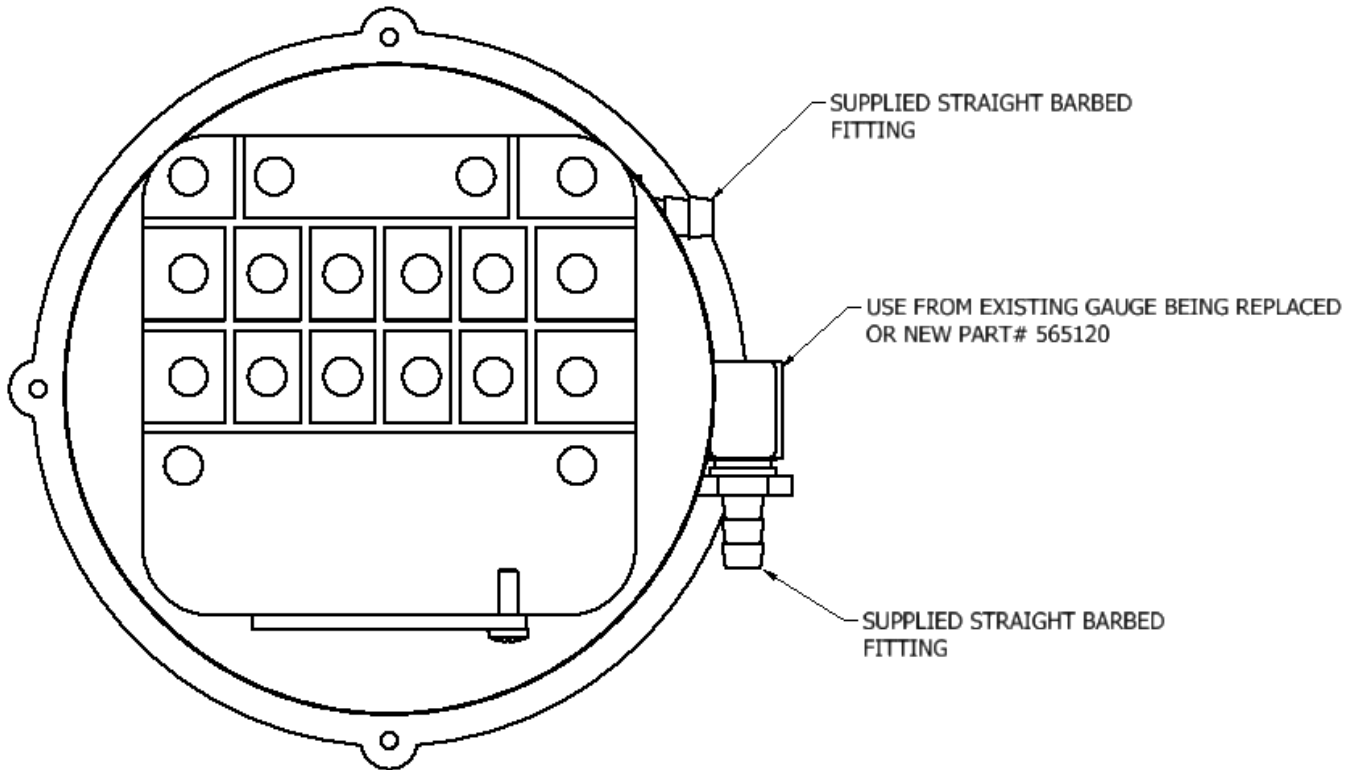

FIGURE 3
- The HS650 gauge is provided by the manufacturer with two straight barbed fittings. In conjunction with the two straight barbed fittings, one 90 degree brass fitting is required for LOW PRESSURE inlet location to provide adequate tubing clearance. **FAILURE TO USE THE 90 DEGREE FITTING MAY CAUSE THE TUBE TO PINCH RESULTING IN FALSE READINGS.** If available, remove the existing 90 degree fitting from the “old gauge” and place in the same port location on the HS650. Fitting installation is shown in Figure 3.